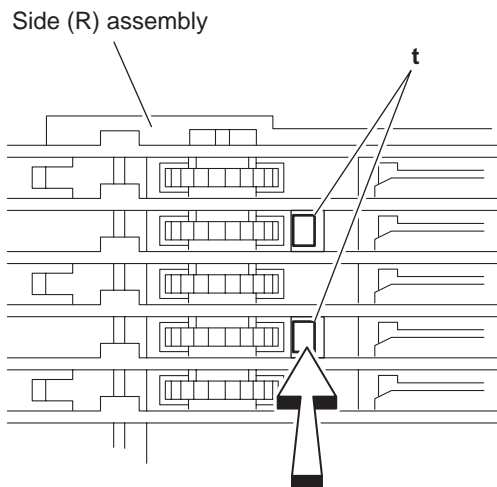

Fig.22
3.2.12 Removing the side (R) assembly (See Fig.22 to 26)
- (1) From the inside of the side (R) assembly, release the two tabs **t** of the gear cover and remove the gear cover outward. (See Figs.22 and 23.)